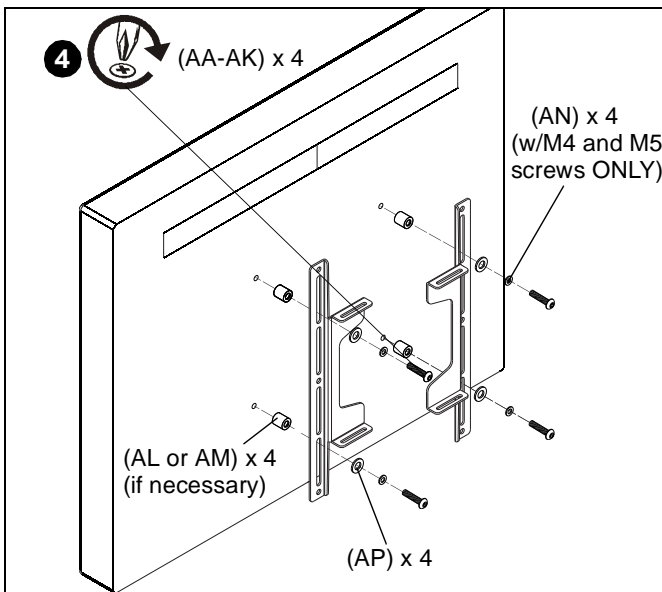

Figure 5
3. Place two interface brackets (C) on the back of the display, with the indented brackets facing toward the inside of the television. (See Figure 5)
4. Secure the interface brackets (C) to the display. Select the mounting hardware that fits your application. (See Figure 5)
- Use M6 screws (AC or AD) or M8 screws (AA or AB) and 1/4" washers (AP).
- Or, use M4 screws (AE, AJ or AK) or M5 screws (AF, AG or AH), 1/4" washers (AP) and #10 washers (AN).